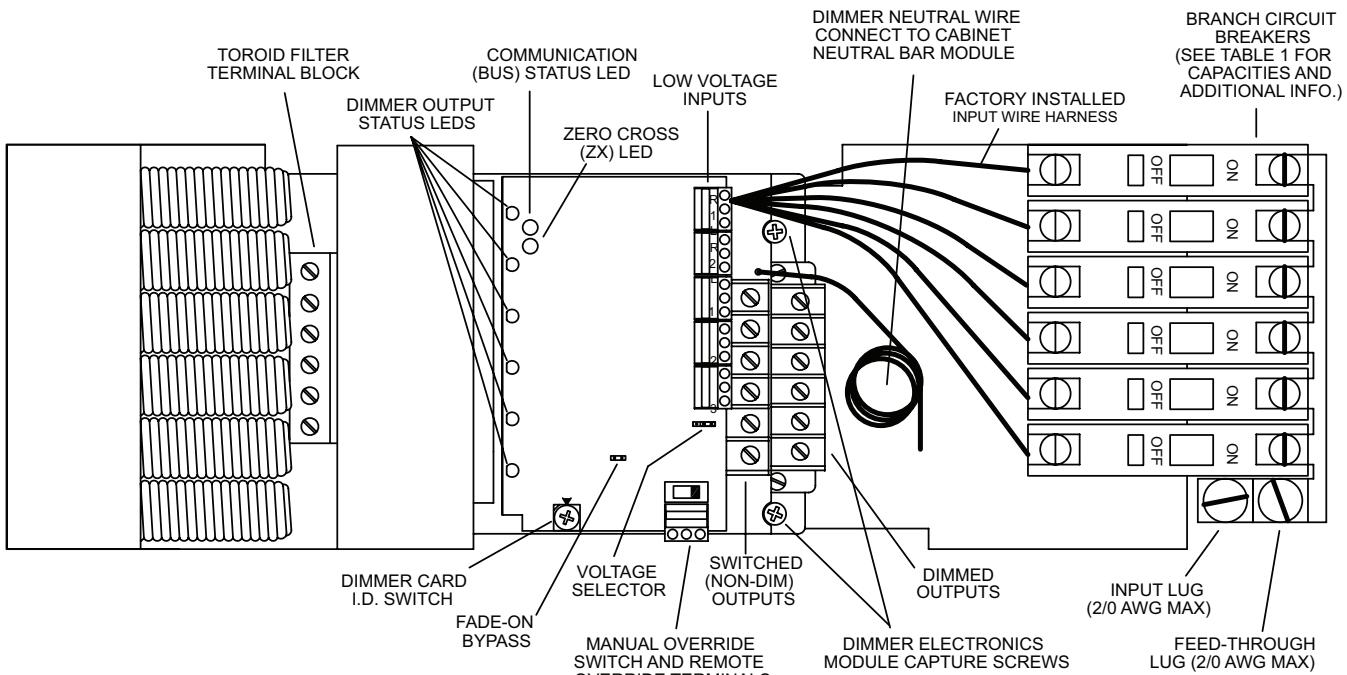

Figure 1 - Dimmer Module Layout
8. Remove the REMOTE OVERRIDE (RO) TERMINAL BLOCK (if installed) by grasping the terminal block and pulling it up and away from the circuit board.
9. Completely loosen the 6 screws on the TOROID FILTER TERMINAL BLOCK located between the heat sink and the toroids. (See *Figure 1*)
12. Unscrew the 2 captive mounting screws located on each side of the DIMMED OUTPUT TERMINAL BLOCK. (See *Figure 1*)